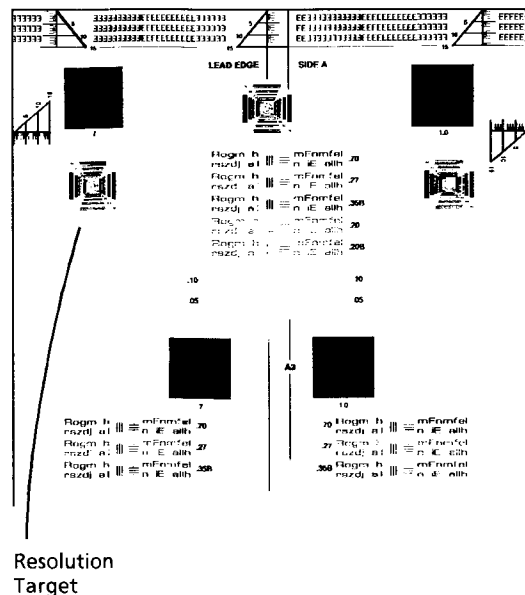

Figure 1. Checking the Resolution
2. Check that the 3.5 LP/mm arrays for the resolution targets are completely resolved (Figure 1).